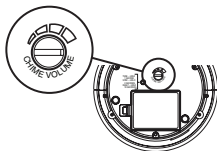

Figure 7
5. Adjust volume control to desired volume (see Figure 7).